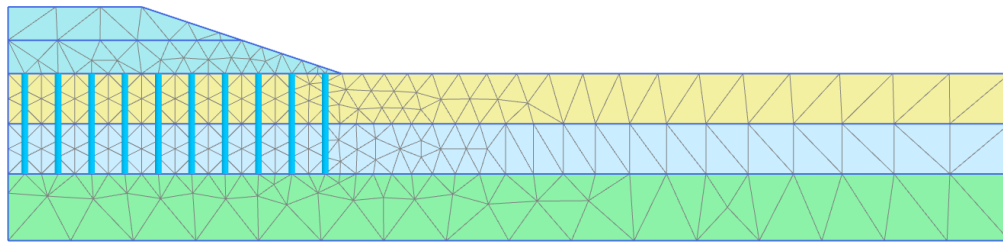

Figure 111: The generated mesh
3. Click the **View mesh** button  to view the mesh as shown in Figure 111 (on page 132).